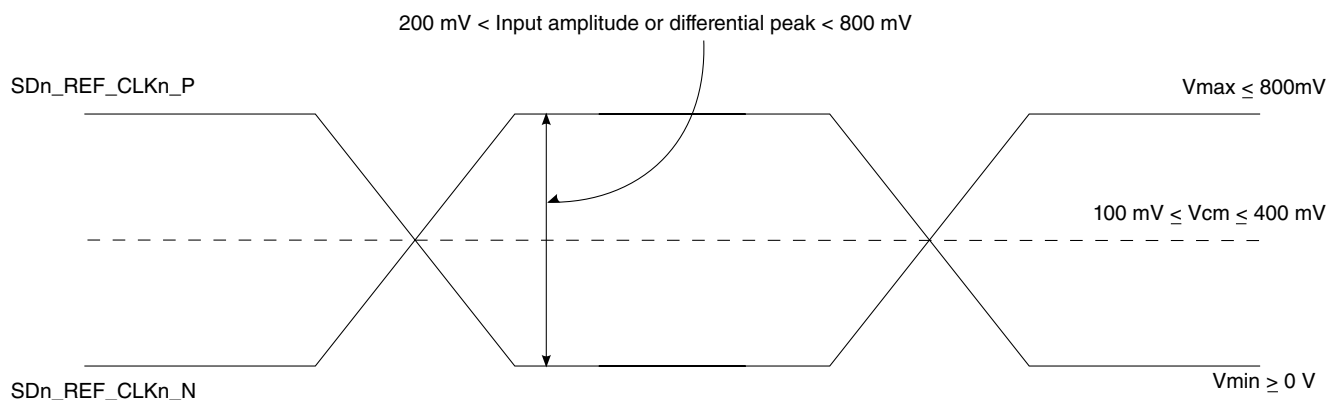

Figure 33. Differential reference clock input DC requirements (external DC-coupled)
- For an external DC-coupled connection, as described in SerDes reference clock receiver characteristics, the maximum average current requirements sets the requirement for average voltage (common mode voltage) as between 100 mV and 400 mV. Figure 33 shows the SerDes reference clock input requirement for DC-coupled connection scheme.